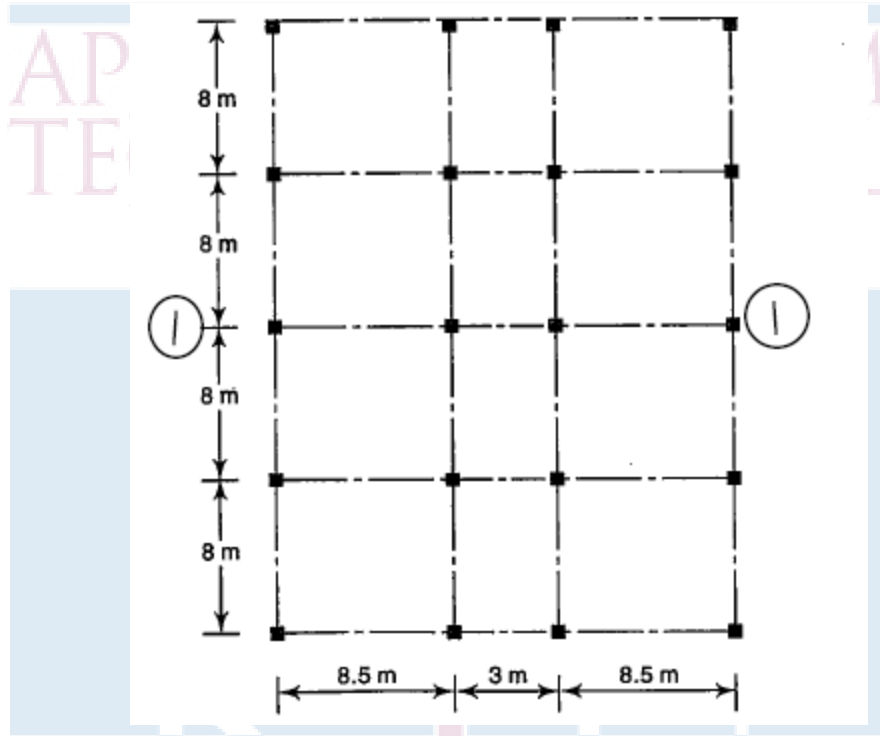

Fig.6.
18. a. Explain mode superposition technique for the estimation of vibration response of multi degree of freedom systems (6)
- (i) Body waves and Surface waves (ii) Rayleigh waves and love waves (iii) intensity and magnitude of earthquakes. (8)
19. a) Explain how the various building irregularities affect the behaviour of structures to earthquake excitation. (6)
b) The plan of a five storey building is shown in Fig 6. Dead load including self weight of slabs, finishes, partitions etc can be assumed as  $5 \text{ kN/m}^2$  and live load as  $4 \text{ kN/m}^2$  on each floor and as  $1.5 \text{ kN/m}^2$  on the roof. Determine the base shear and shears at different storey levels for the frame 1-1 marked in figure. (8)